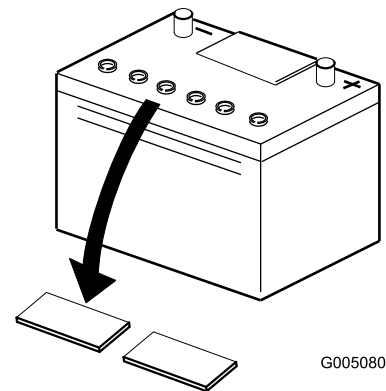

Figure 6
2. Clean the top of the battery and remove the vent caps (Figure 6).